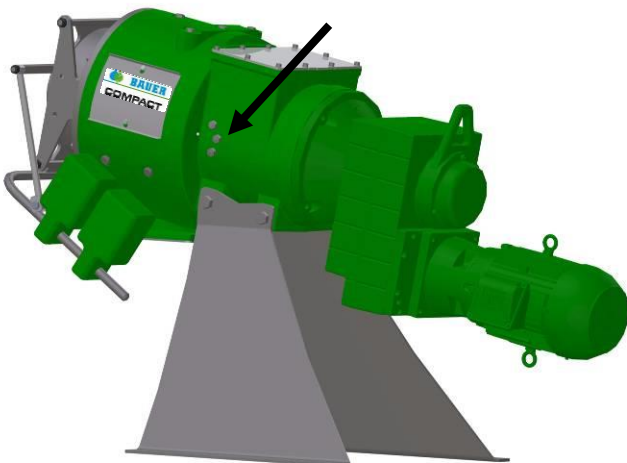

Fig. 13-13 Scraping bolts
6. Loosen the lock nuts of the scraping bolts and turn the scraping bolts roughly one turn counter-clockwise, see Fig. 13-13.
<p>Every 1-3 months</p> <ul style="list-style-type: none"> • Inspection and cleaning of the housing, screen, guide rails, plastic profile rails, auger, housing protection ring (see section 13.2 - 13.5) • Readjust scraping bolts (see section 13.3 Fig. 13-13)